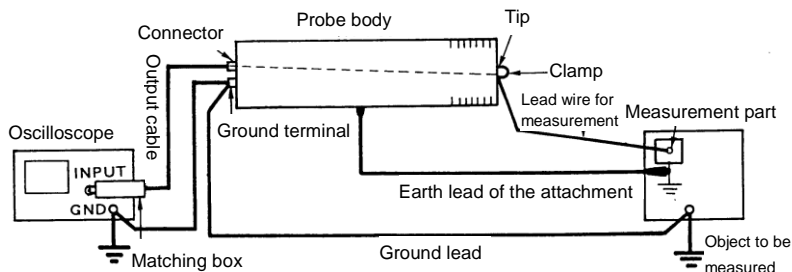

Figure 6 Connection of lead wire for measurement
- 6) The lead wire is drawn out from the point to be measured, and connected with Tip of Probe. (Refer to Figure 6.)